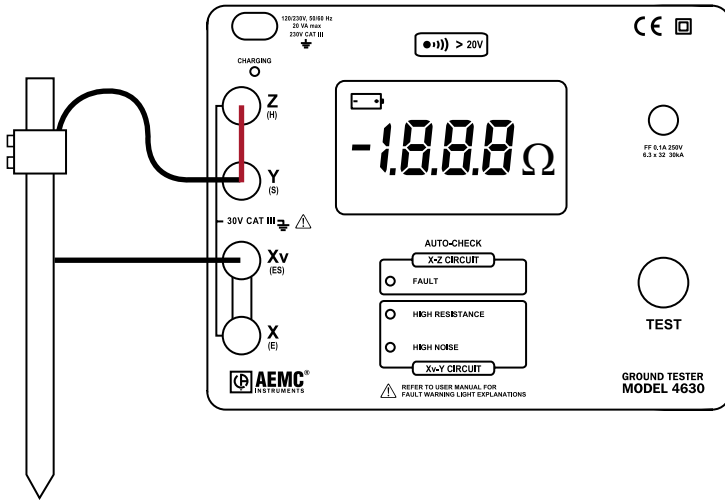

Figure 17
- Connect a short wire or jumper cable between Y and Z (H and S) as shown in Figure 17.